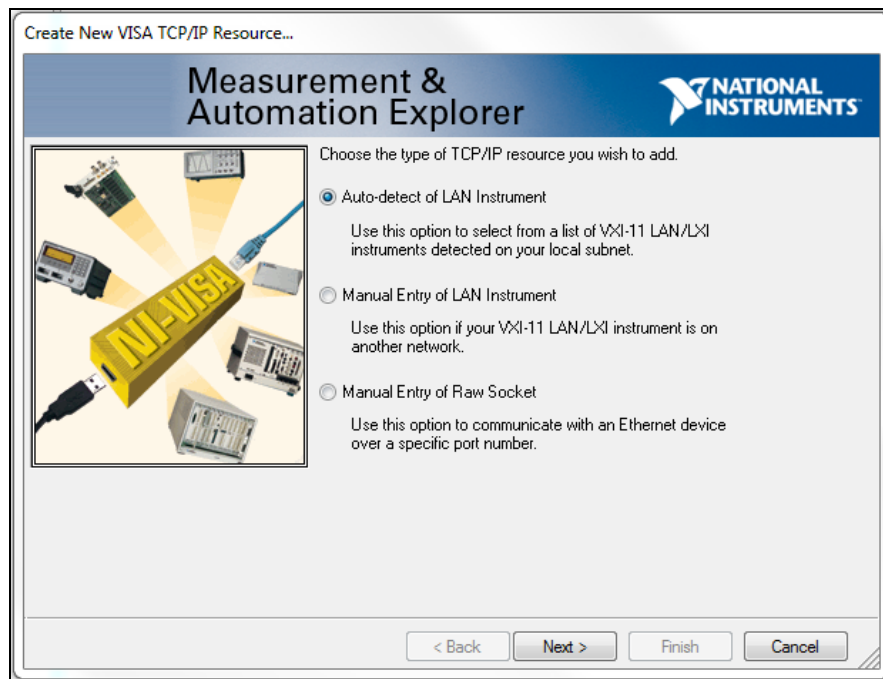

Fig 18
4. Select **Auto-detect of LAN Instrument**. Press **Next**. Refer to Fig 18